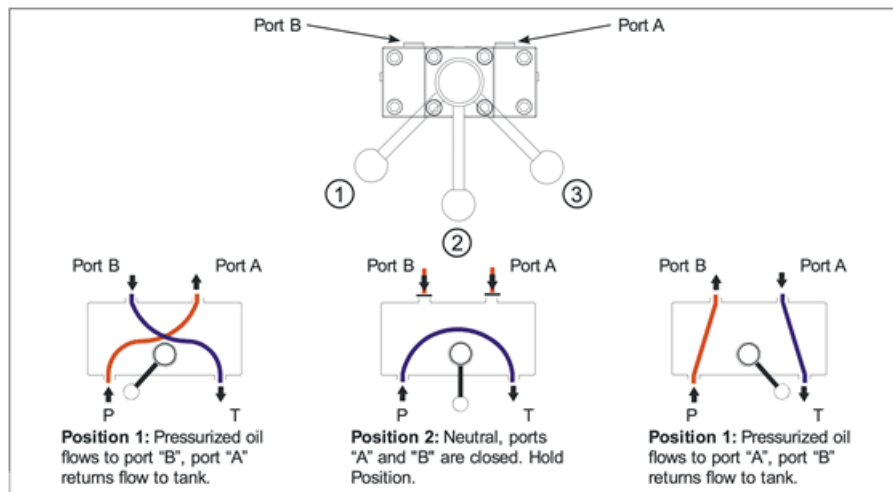

Figure 1 – Flow path of the valve positions and operations
- 5.3 Shift the valve to desired position. There are three positions available, refer to Figure 1 below for the flow path.